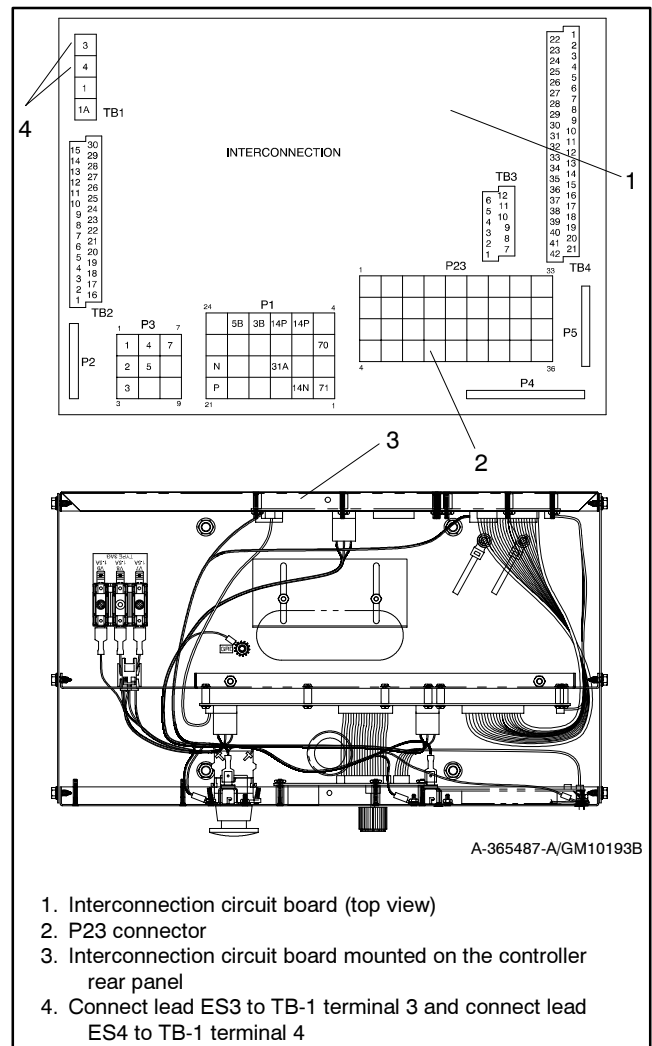

Figure 5 Attaching Wiring Connection Harness to Controller Circuit Board
- 2.6 Plug the wiring harness connector into the interconnection circuit board's P23 connector. Connect lead ES3 to TB-1 terminal 3 and connect lead ES4 to TB-1 terminal 4. See Figure 5. If access to the interconnection circuit board is difficult, remove the two controller panel top screws, center bottom screw, and then loosen the bottom screws to swing the rear controller panel down.